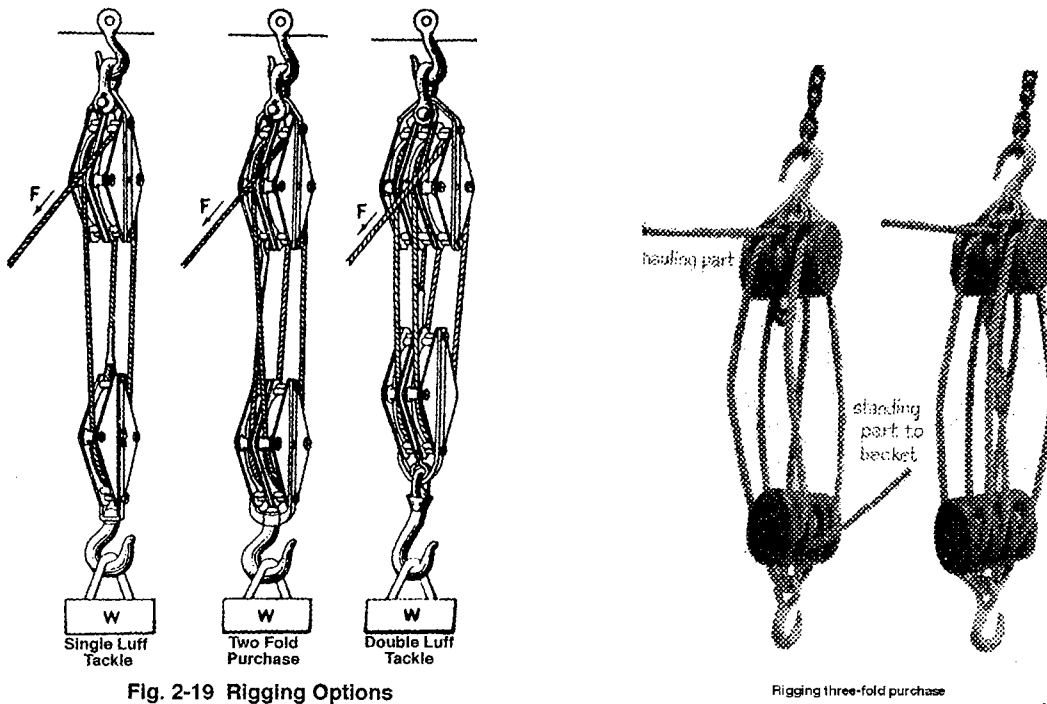

Fig. 2-19 Rigging Options
2. Tackles: Some of the common tackles used aboard ships are (See **Figure 2-19**):